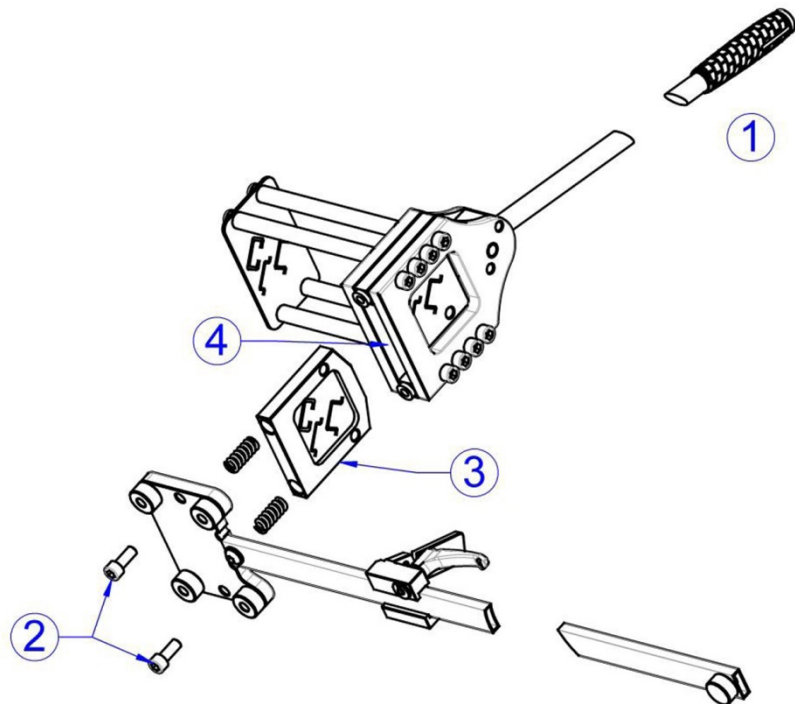

Fig. 9: Shear plate maintenance
- Fold the actuating lever (fig. 9, item 1) completely back.
- Loosen the two M8 bolts (fig. 9, item 2) on the lower side of the unit.
- Remove the shear plate from the unit from below (fig. 9, item 3).
- Clean the interior (fig. 9, item 4) of the cutting unit and purge with compressed air.